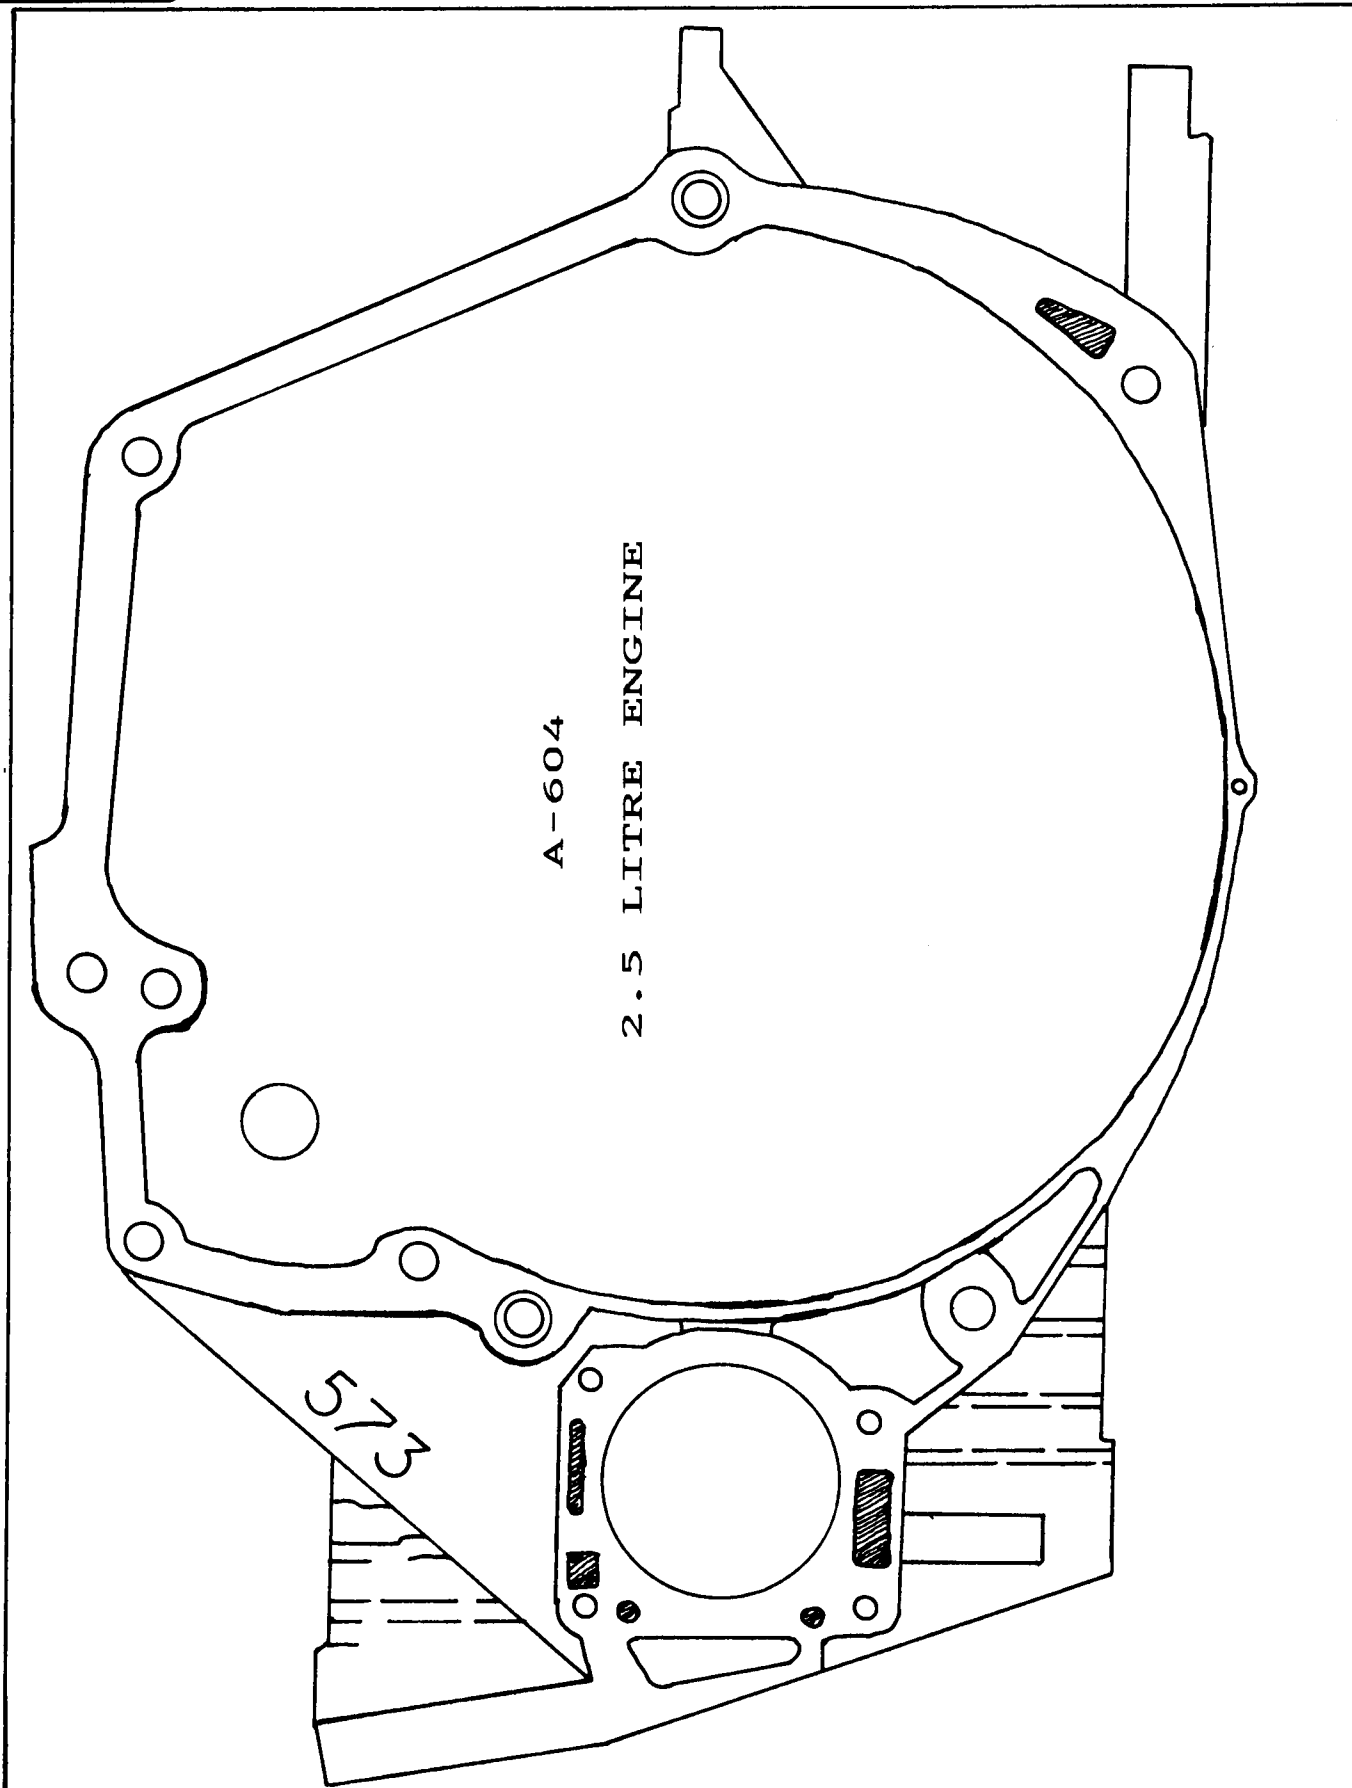

Figure 9
- (1) **TRANSAXLE CASE** - Because of the three different engines that are now used, it requires three different bell housing bolt patterns.
- For the 2.5 Litre Bell Housing pattern, refer to Figure 9.